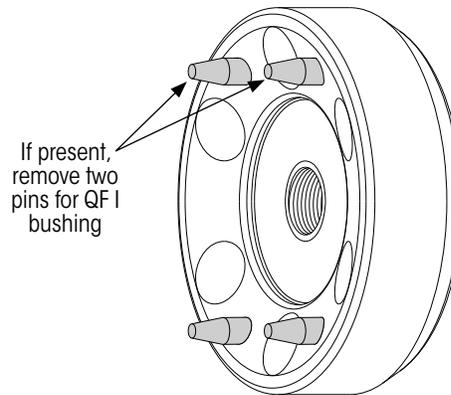

Figure 41: Narrow bushing rear drive plate alignment pins
- B. **Narrow Bushing Tool:** The alignment pins in the rear drive plate of the narrow bushing tool (Figure 41) are fixed and cannot be adjusted.
NOTE: For the QF I bushing, two pins must be removed from the rear drive plate (Figure 41). This will not effect TF III bushing installation. Refer to Hendrickson literature number T89009 for details.